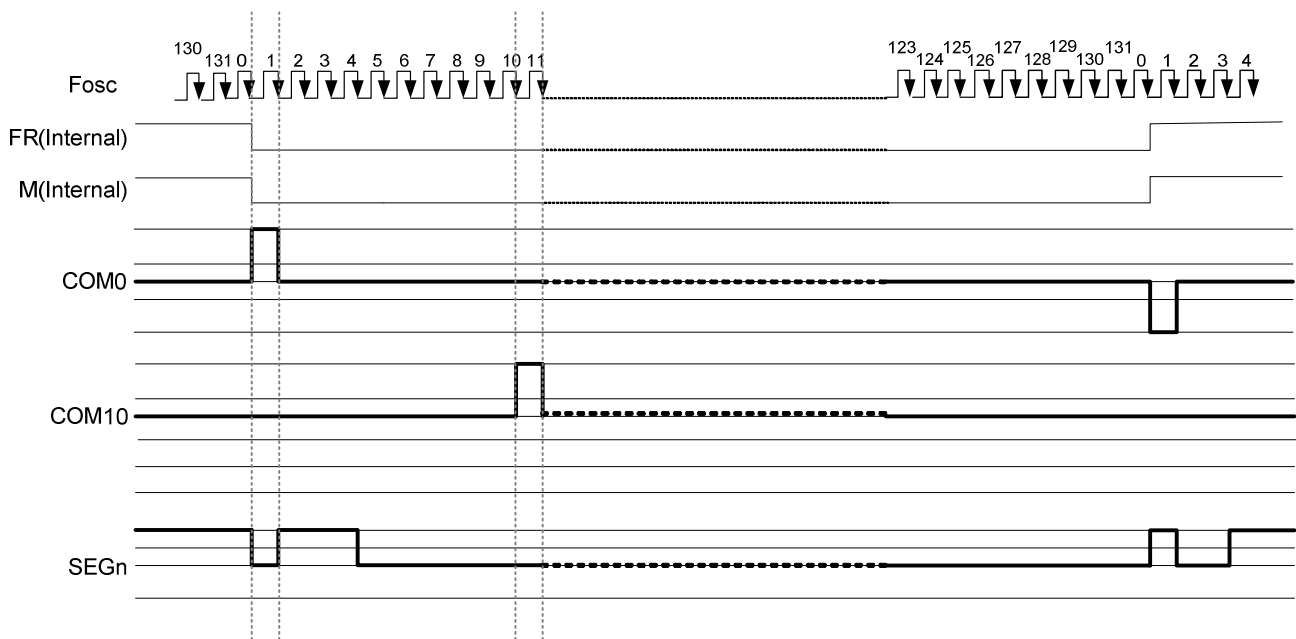

Figure 7.7-1 2-frame AC Driving Waveform (Duty Ratio: 1/132)
This circuit generates some signals to be used for displaying LCD. The display clock, which is generated by oscillation clock, generates the clock for the line counter and the signal for the display data latch. The line address of on-chip RAM is generated in synchronization with the display clock and the display data latch circuit latches the 132-bits display data in synchronization with the display clock. The display data, which is read to the LCD driver, is completely independent of the access to the display data RAM from the microprocessor. The display clock generates an LCD AC signal (M), which enables the LCD driver to make an AC drive waveform, and also generates an internal common timing signal and start signal to the common driver. The frame signal or the line signal changes the M by setting internal instruction. Driving waveform and internal timing signal are shown in Figure 7.7-1.